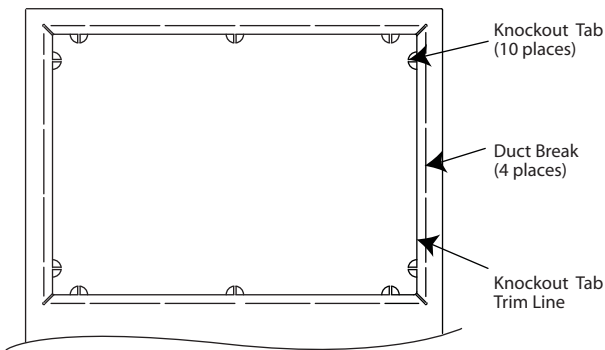
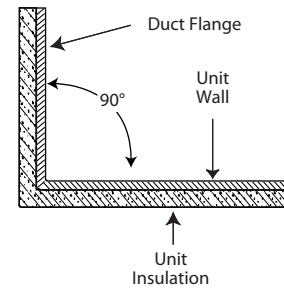

Figure 10
Figure 11
3. Use a sharp retractable knife to trim insulation using center knockout slot/trim line as pattern (see Figure 10).
4. Use a sharp standard needle nose pliers and grab knockout tab (see Figure 10).
9. Use duct pliers (hand seamers) to fold duct flange out of the unit 90° for each side of the supply air opening along duct break (see Figure 10). The 90° flanges can now be used as drywall stops to prevent coverage of discharge opening (see Figure 11).